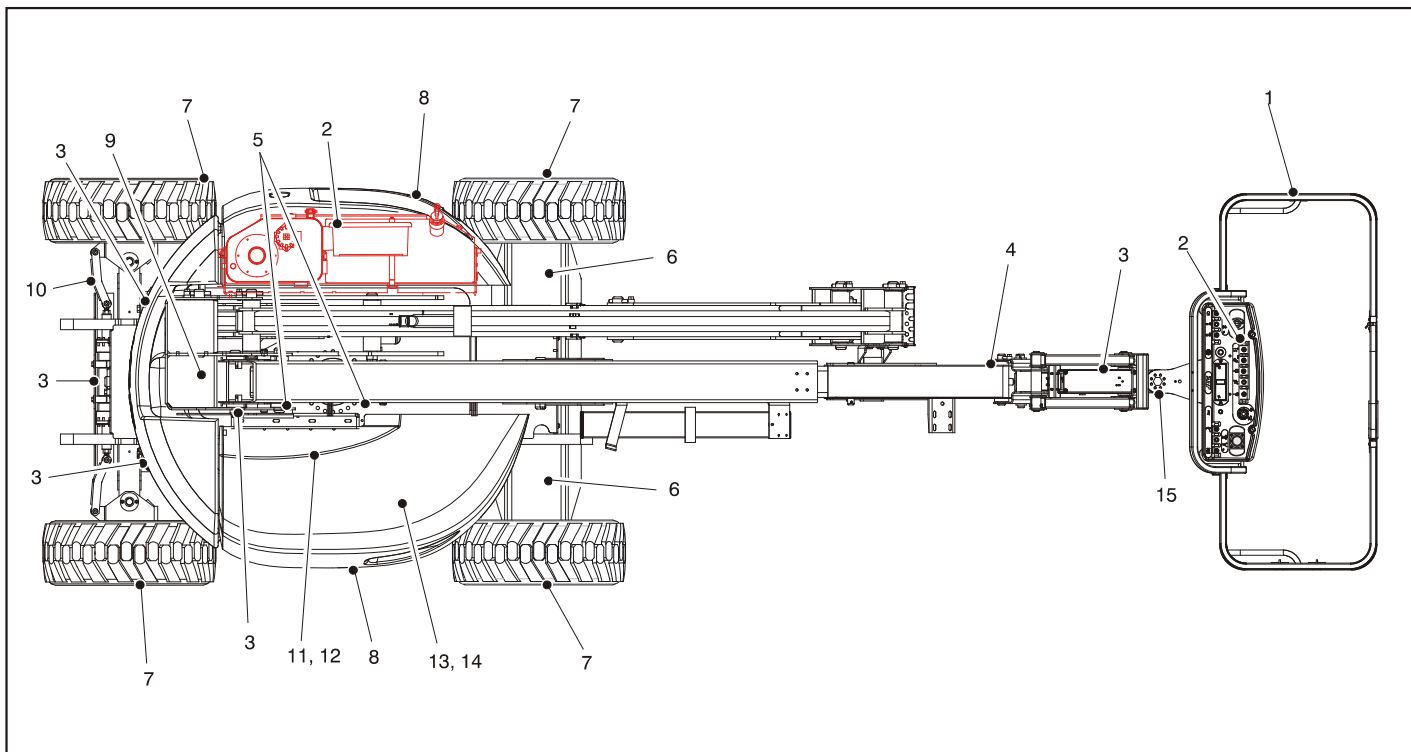

Figure 2-3. Daily Walk-Around Inspection - Sheet 1 of 3
4. **“Walk-Around” Inspection** – Refer to Figure 2-3. and Figure 2-4.